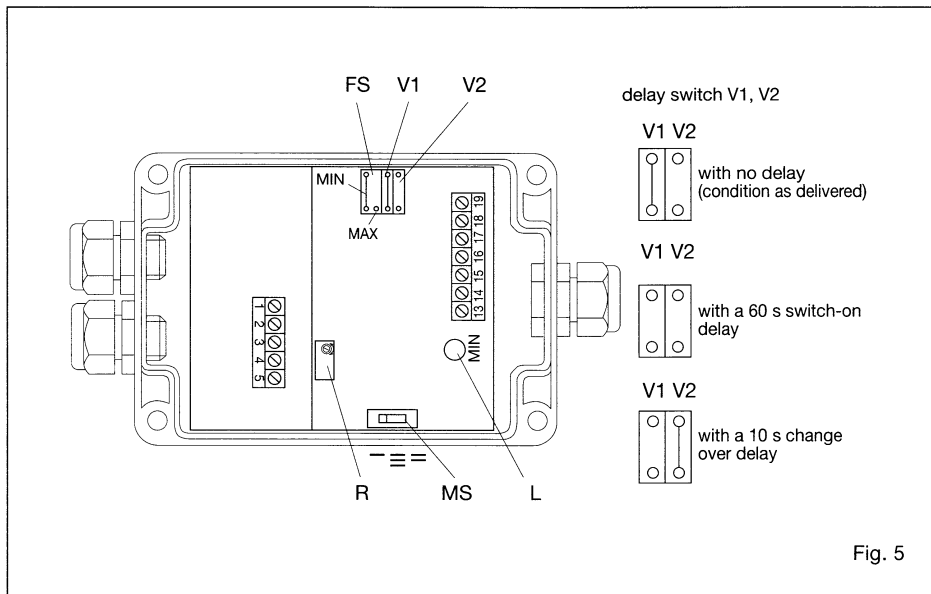

Fig. 5
2. Set medium selector switch (MS)(see fig. 5) to
3. Select either the MIN or MAX function by means of selector switch (FS), see fig. 5.
4. To facilitate flow response setting leave the delay switch (V1 and V2, fig. 5) in the condition as delivered (with no delay = V1 closed, V2 open).
5. The dual color LED (L) on the control unit indicates the position of the flow switch point.